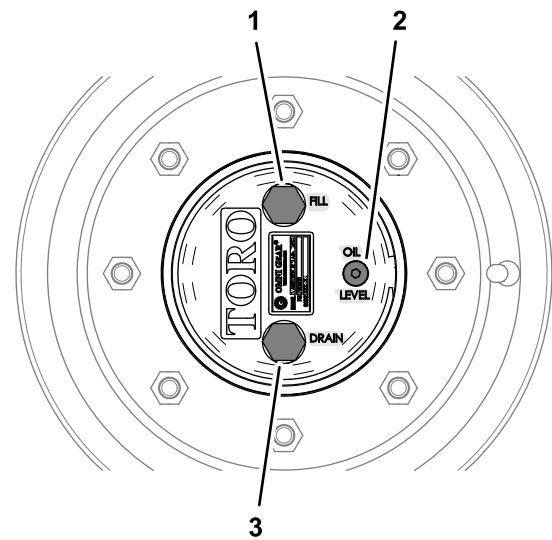

Figure 97
1. With the machine on a level surface, position a wheel so that the fill plug is at the highest (12 o'clock) position and the drain plug is at the lowest (6 o'clock) position (Figure 97).
1. With the machine on a level surface, position a wheel so that the fill plug is at the highest (12 o'clock) position and the drain plug is at the lowest (6 o'clock) position; refer to Figure 97 in Checking the Planetary-Gear-Drive Lubricant (page 69).